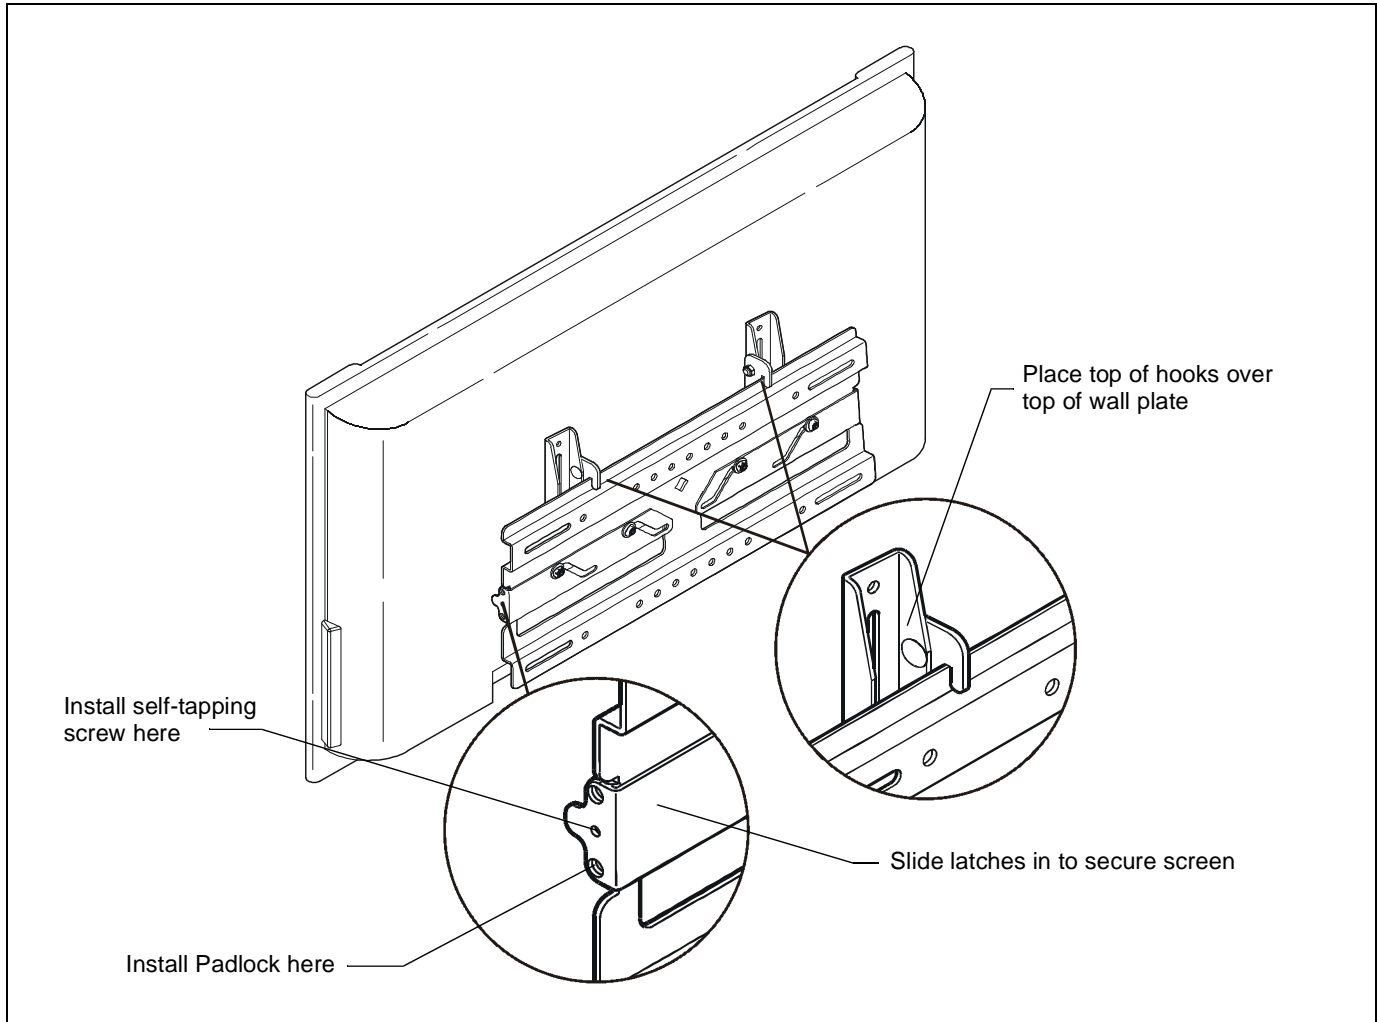

Figure 7
1. Place the display on the wall plate (10) by hooking the hooks of the brackets (20 and 30) in the top of the wall plate (see Figure 7).
2. Secure the display by sliding the latches, one on each side, inward. (See Figure 7)
3. If desired, install self tapping screws (230) and/or padlocks (not provided) for additional security. (See Figure 7)